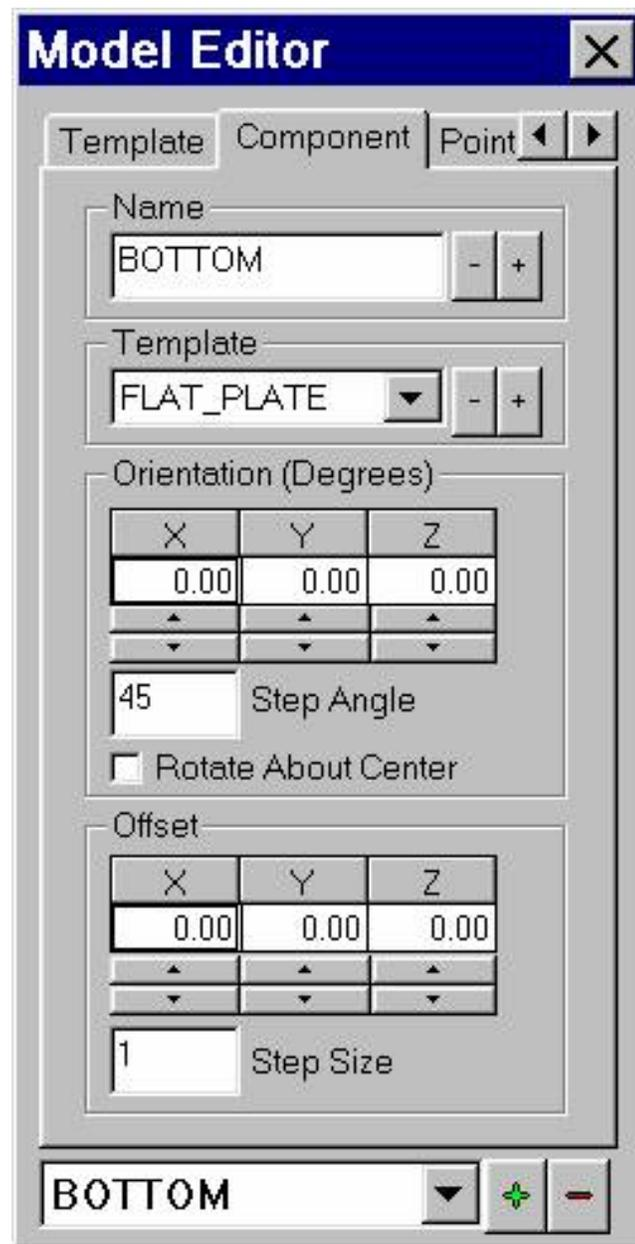

Figure 4
- 6) Click the Component tab (see Figure 4)